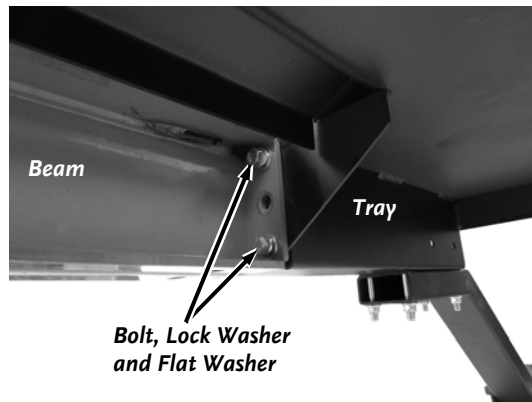

Figure 12
6. Install the four Bolts, Lock Washers and Flat Washers (from the tray kit) to secure the Tray to the end of the Beam using a 9/16" Wrench (**Figure 12**).